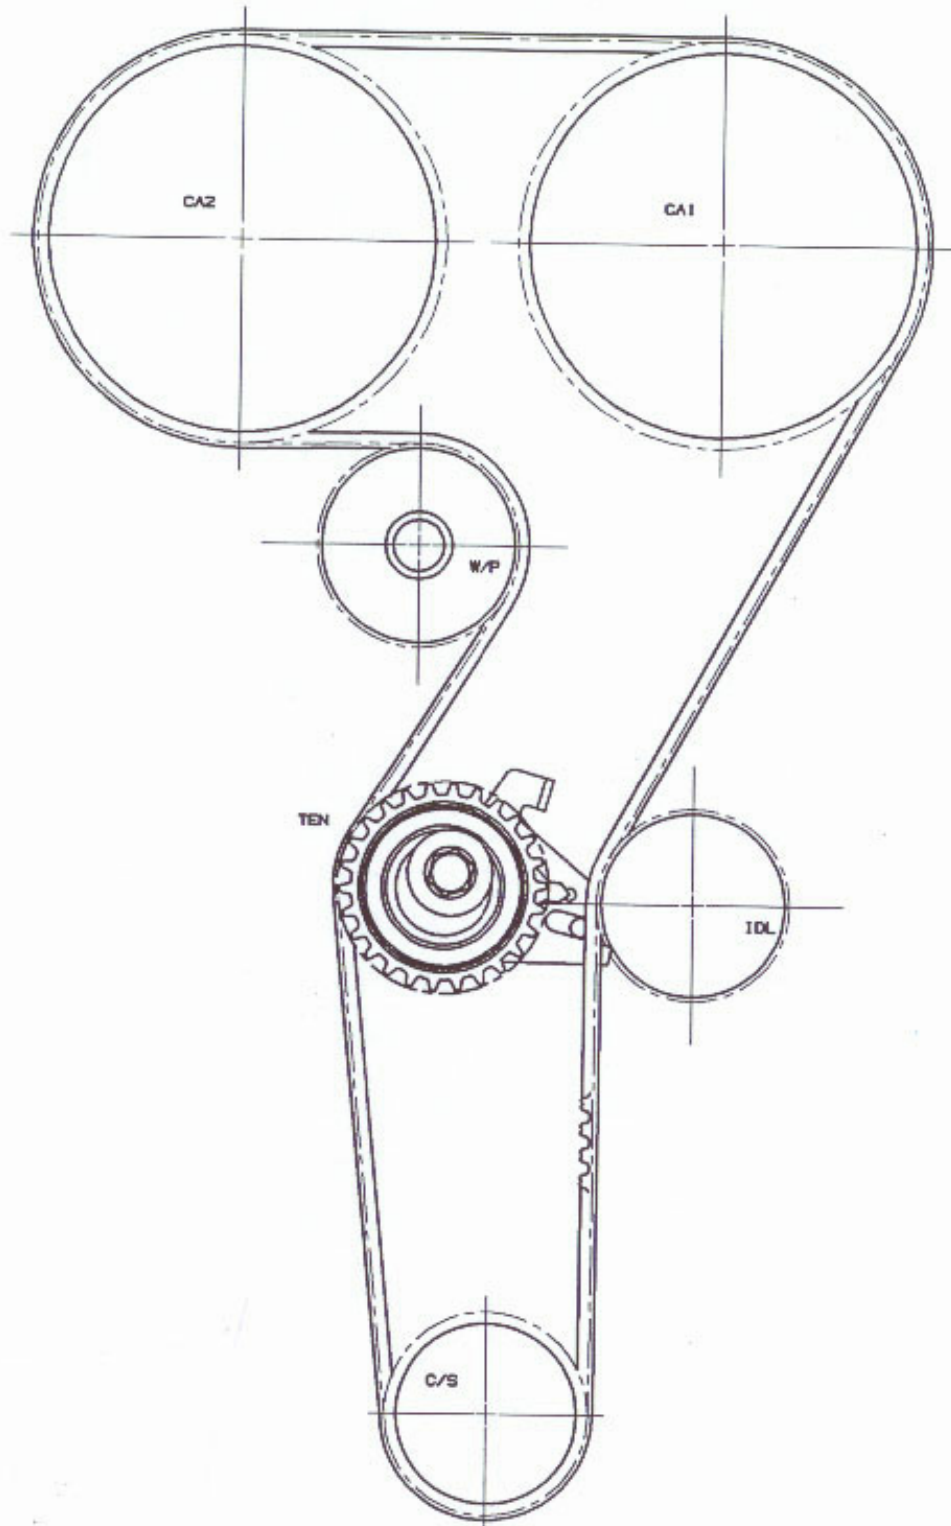

Figure 2: Belt layout for 979236 (FIAT 2.0L/1.75L DOHC, 4 Cyl.)
5. Install the timing belt being careful to engage the appropriate teeth of all the corresponding sprockets as per drive layout (See Figure 2).